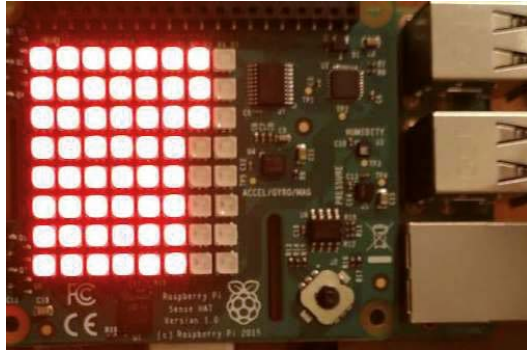

Figure 12.26 Displaying temperature 25.5°C
- Create a **Sense HAT output** node and join all the node, click **Deploy**. You should see that the temperature displayed on the LED matrix with the number of LEDs turned ON. In the example shown in Figure 12.26, 51 LEDs are turned ON. Therefore, the temperature is $51 / 2 = 25.5^{\circ}\text{C}$. Note that, as described earlier, the temperature reading of Sense HAT is not accurate since the sensor is close to the Raspberry Pi CPU.